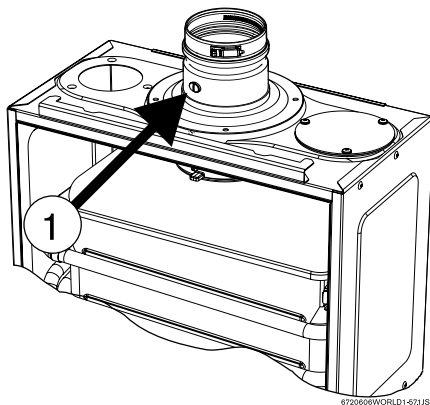

Fig. 44
- ▶ Loosen screw 1 (Fig. 44).
- ▶ Insert CO₂ analyzer into measuring port (Fig. 44, pos. 1).